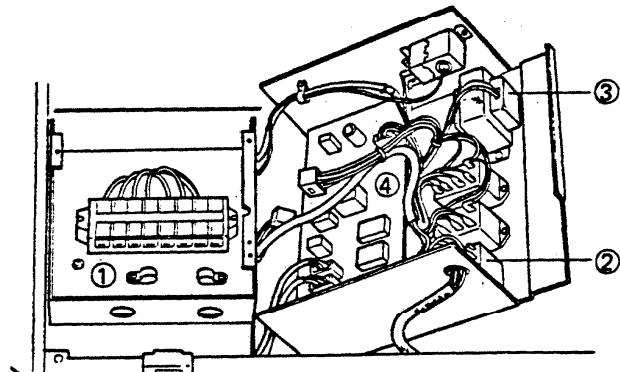

Fig. 6
- 7) The electrical components in the electrical component box all can be checked in this condition. Fig. 6